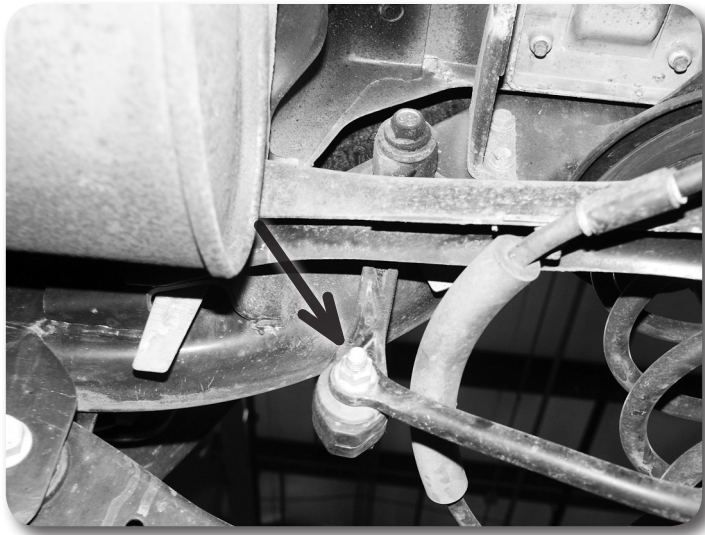

Figure 8
5. Disconnect the sway bar links from the sway bar (Figure 8). Save hardware.